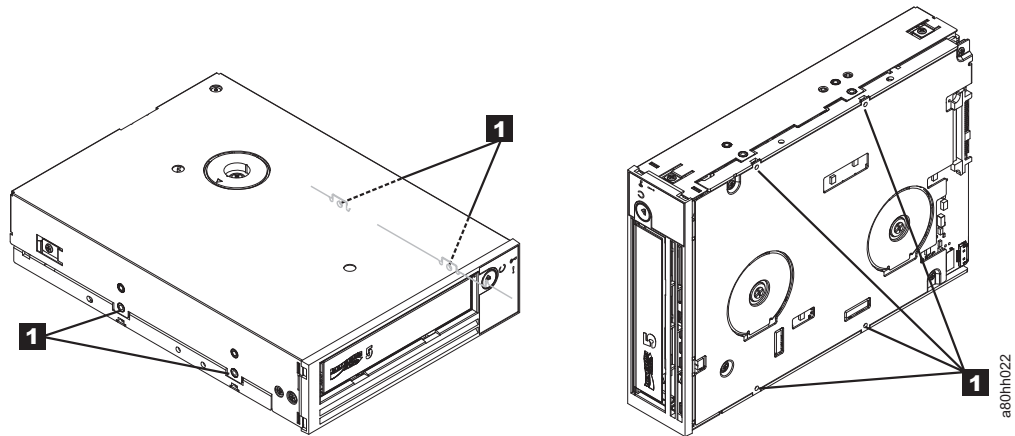

Figure E-5. Removing the bezel and the cover from the internal drive
- 1) Remove the four cover-mounting screws (**1** in Figure E-5). Two screws are located on each side of the drive.